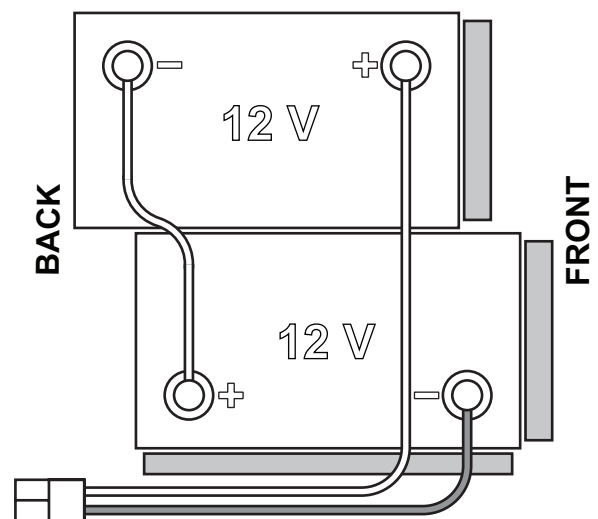

Figure 1
The machine requires 2 12 V batteries, connected according to the diagram shown in Figure 1.
1. Remove the user key (52).
2. Disconnect the battery connector (9).
3. Lift the cover (34) and check that the recovery tank (33) is empty; if not, empty it using the drain hose (12).
4. Close the cover (34).
5. Grasp the handle (16) and carefully lift the tank (33).
7. Route and install the battery cable as shown in Figure 1, then carefully tighten the nut on each battery terminal.
8. Connect the battery connector (9).
9. Grasp the handle (16) and carefully lower the tank (33).